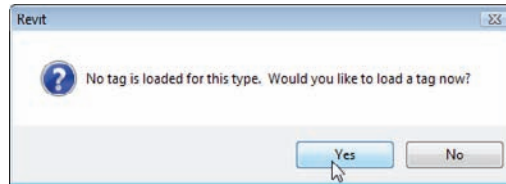

FIGURE 11.64 When you try to tag an item without a specific tag type loaded, this dialog prompts you to load the tag.
5. Many times, you won't have a tag loaded for this specific type of item. If that situation occurs, you'll get the message shown in Figure 11.64. If you do, click Yes to load the tag. If you don't, proceed to step 14.